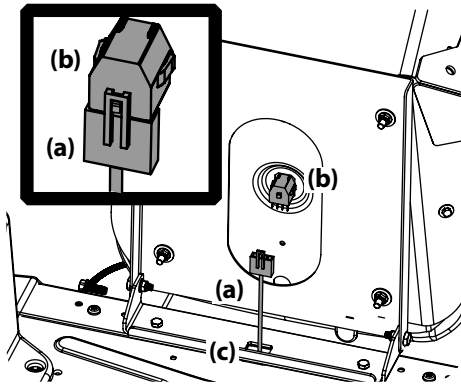

Figure 2-14
3. If necessary, securely connect the seat switch wiring harness (a) to the seat switch (b) as shown in Figure 2-14. Be sure to push the excess wire from the wire harness into the seat box hole (c) before continuing.